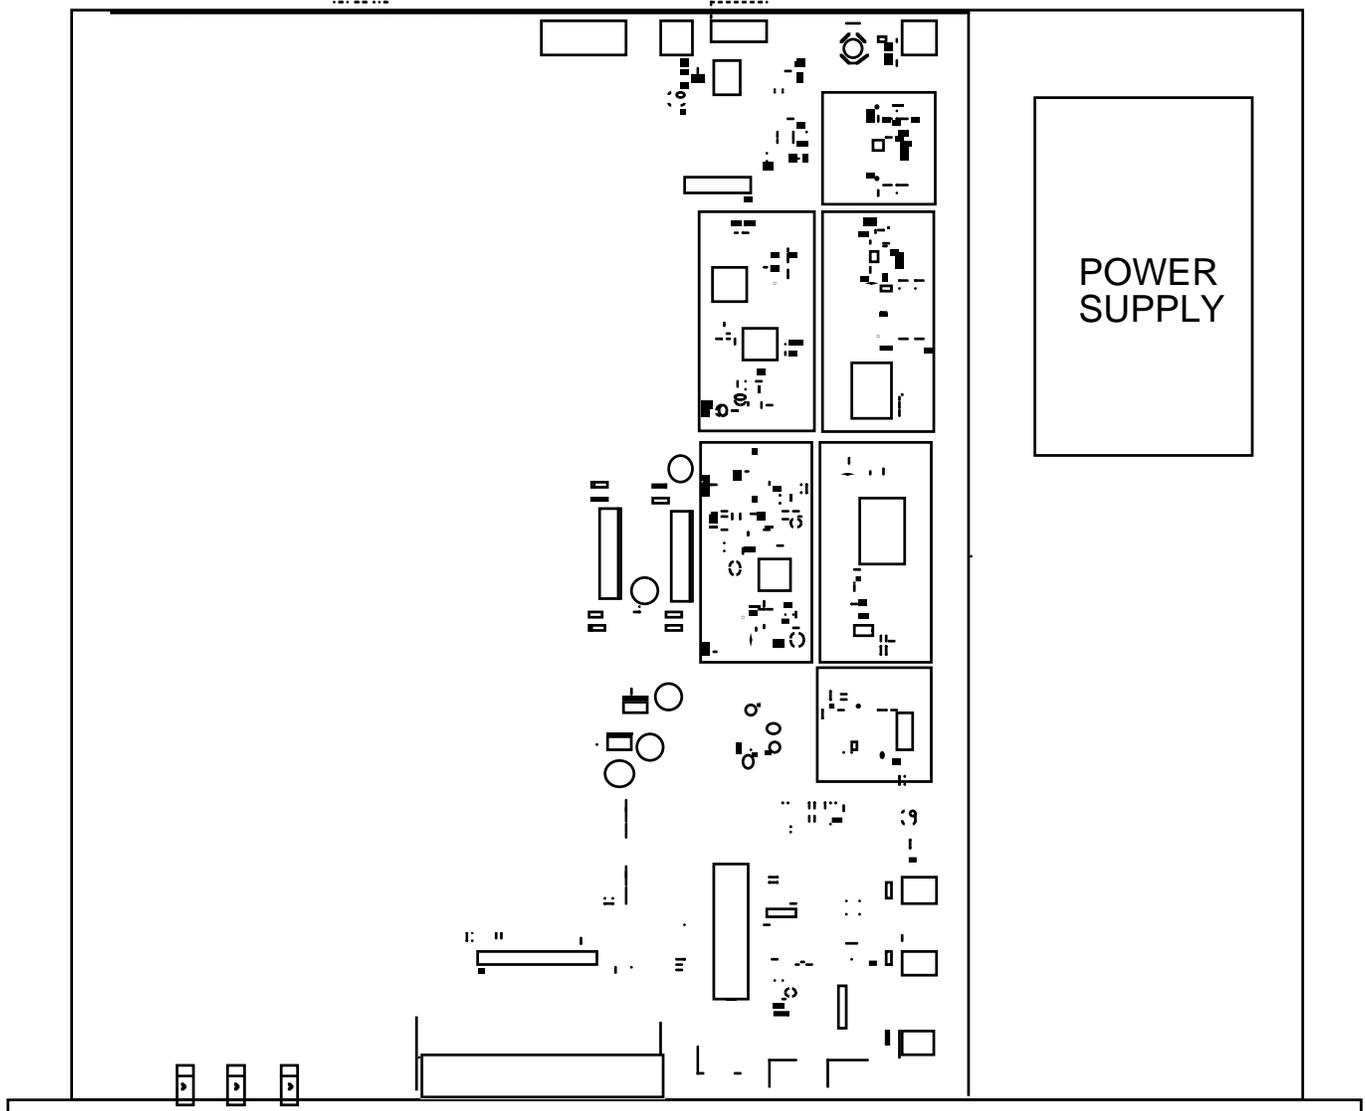

FIGURE 2.1 2016-95 Mechanical Assembly
2.1 Mechanical - The 2016-95 consists of one RF/Controller PCB housed in a 1 RU (1 3/4 inch high) by 16 inch deep chassis. A switching, ± 12 , +24, +5 VDC power supply provides power for the assemblies. The 2016-95 can be secured to a rack using the 4 holes on the front panel. Figure 2.1 shows how the 2016-95 is assembled.